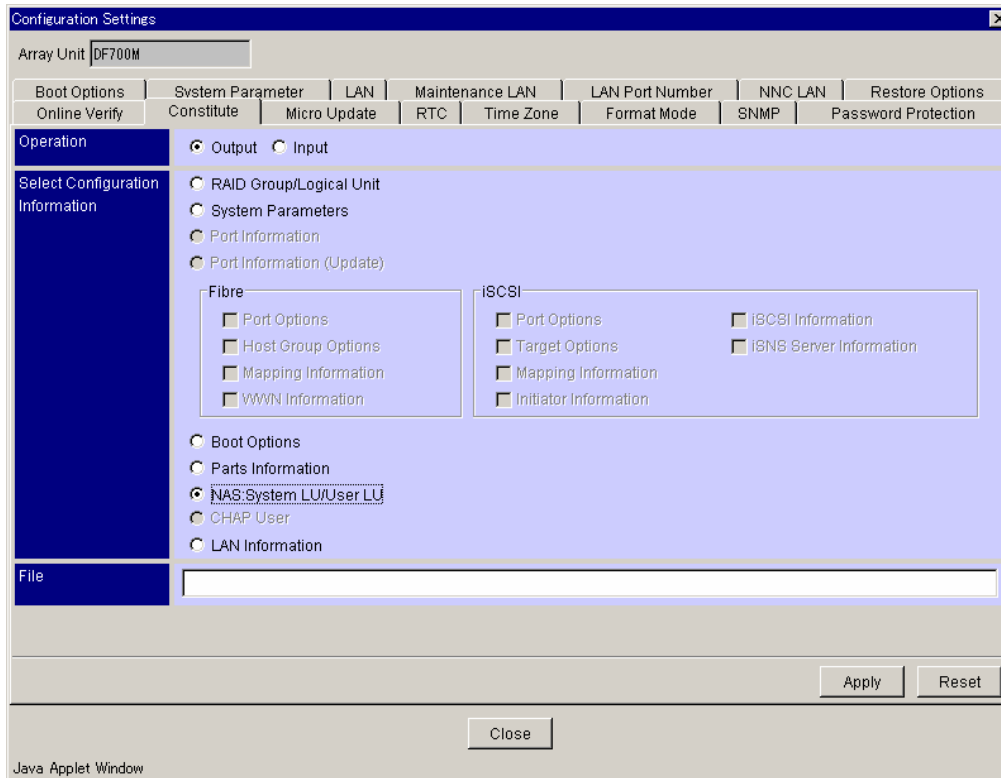

Figure 9.31 Configuration Settings - NAS System LUN Panel (output)
2. Click the **Constitute** tab. See Figure 9.31.